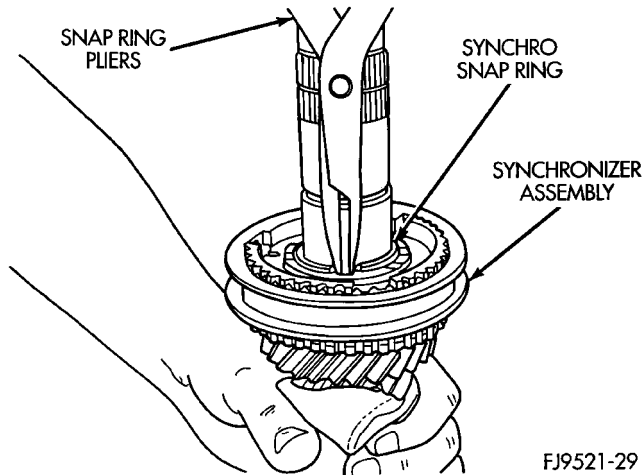

Fig. 87 3-4 Synchronizer Hub Snap Ring
(9) Remove blocking ring. Remove 3-4 synchronizer hub retaining snap ring (Fig. 87).